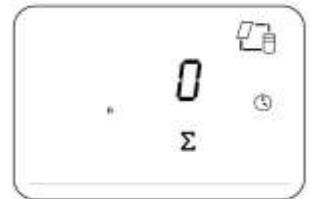

Fig. 26
i. This screen (Fig. 26) will show total hours of pump operation accumulated since commissioning date (if is a new install it will display 0). Press  to accept.